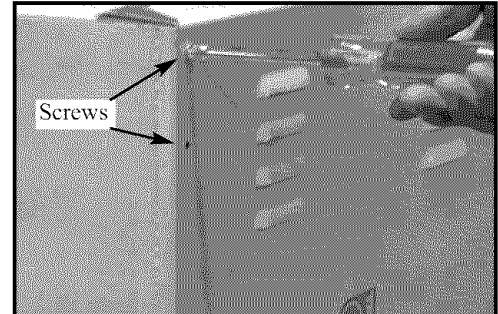

Fig. 1
1. Attach the two L-shaped sides to the back portion of the cart, making sure the two holes face up & the key holes are on the top, using the (4) self tapping hex head screws. (See Fig. 1)